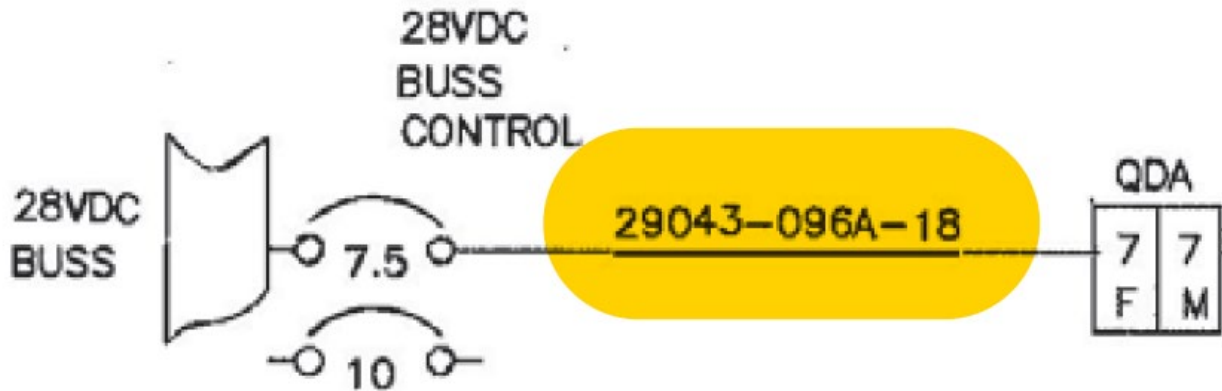

Figure 20: Right Hand Panel and Landing Control Wire for Night Working Lights
25. Connect 29043-096A-18 wire to Right Hand Panel and 10 Amp Landing Control Circuit Breaker (7277-2-10) for night working lights. Refer to Figure 20.